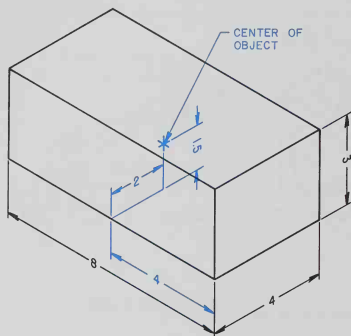

Fig. 8-9. Centering an isometric drawing.
1. Select the desired location for centering the isometric drawing (usually the center of a sheet or other space), Fig. 8-9.
manner as described in Fig. 8-9 for isometric drawings. The only difference is in the angle of the oblique lines.